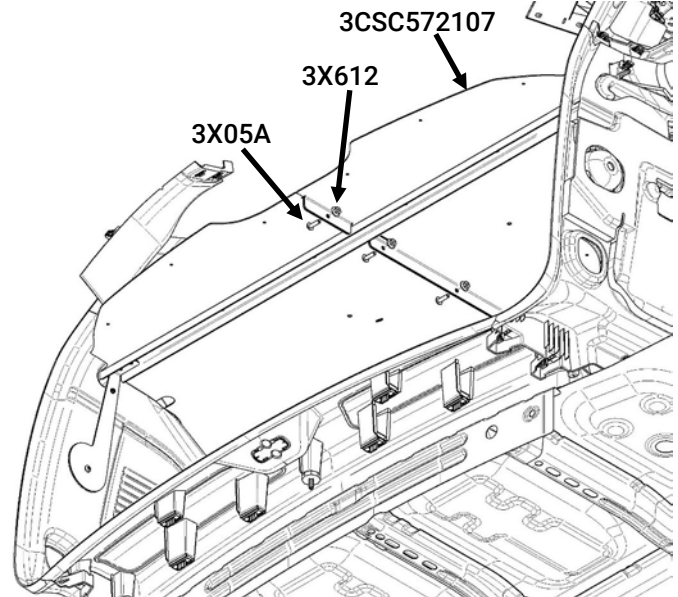

Figure 11
- C. On the under side of the shelf, there are two flanges that need to be connected. Align the (7) holes and loosely secure using (7) hex head screws [3X05A] and (7) serrated flange nuts [3X612] (Fig 11).